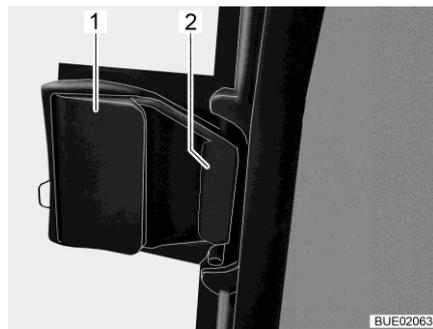

Fig. 118 Sliding window, locked
- Pull the release element (Fig. 118,1). The latch (Fig. 118,2) opens.